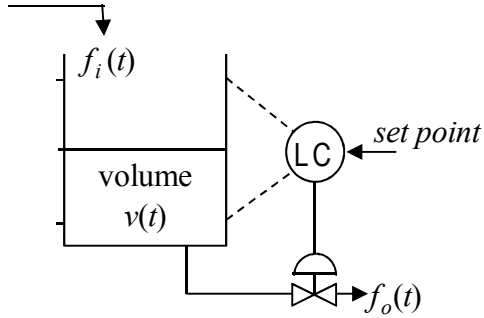
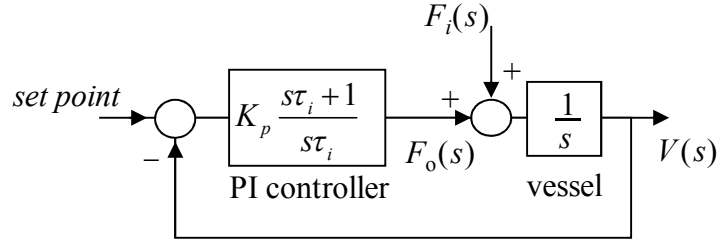

Figure 6.1. Control system.
Figure 6.2. Block diagram of control system.
6. The volume of liquid in the vessel shown in Figure 6.1 may be controlled to make maximum use of the available vessel capacity in order to smooth out disturbances in the inflow. Figure 6.2 shows the block diagram of the vessel under PI control. For simplicity in the exposition, all the variables shown in both Figure 6.1 and Figure 6.2 are the deviation variables (that is: the actual value of a variable minus its average value).